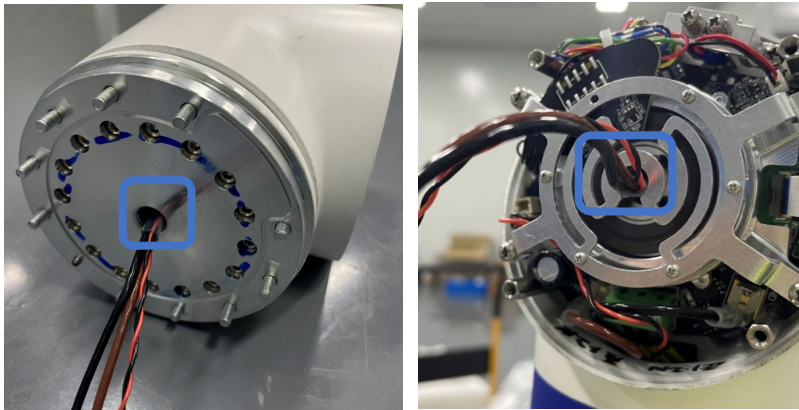

Figure 3-18 Cables are routed to the joints
- **Threading:** The wires on the joint must be pair to the correct joint. Please also pay attention to the direction of the wires. The wires should be insert from the flange shaft side, then come out from the end cover. The wiring route are fixed to specified positions (these positions should have heat shrinking tubes on both flange shaft side and wire racks) as shown in Figure 3-18: